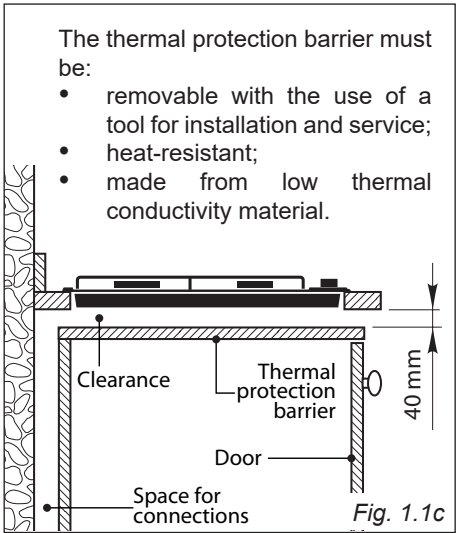

Fig. 1.1c
- If the cooktop is installed directly above an oven (which does not have a cooling fan motor) a thermal protection barrier must be installed below the base of the cooktop as indicated in fig. 1.1c.
- If the base of the cooktop is accessible through a cupboard or drawer space after installation, a thermal protection barrier must be installed below the base of the cooktop as indicated in fig. 1.1c.